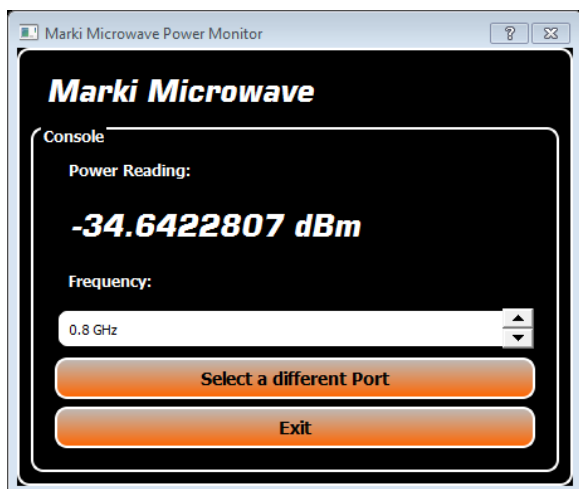

Fig. 8. Marki Meter Power Monitoring Screen
*Note:* You may have to refresh the device list several times in order for your device to be listed. If the device is not listed there may be a problem with the driver installation. After you select a device and click 'Connect', you should see a screen like in Fig. 8.